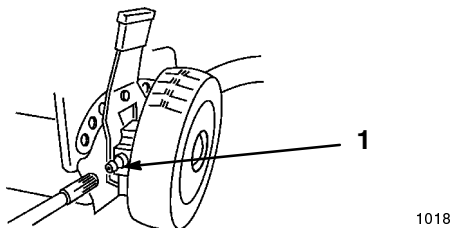

Figure 23
- Wipe the grease fittings on the rear height-of-cut adjusters (Fig. 23) with a clean rag.